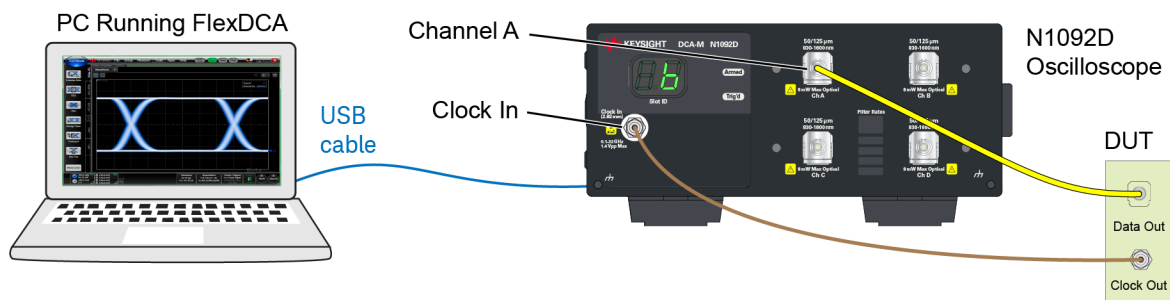

Figure 23. Typical Connection Setup
2. Connect the N109X-oscilloscope as shown in Figure 23. If connecting to an N1000A DCA-X, be sure to connect the USB cable to the N1000A's *rear-panel* USB port.